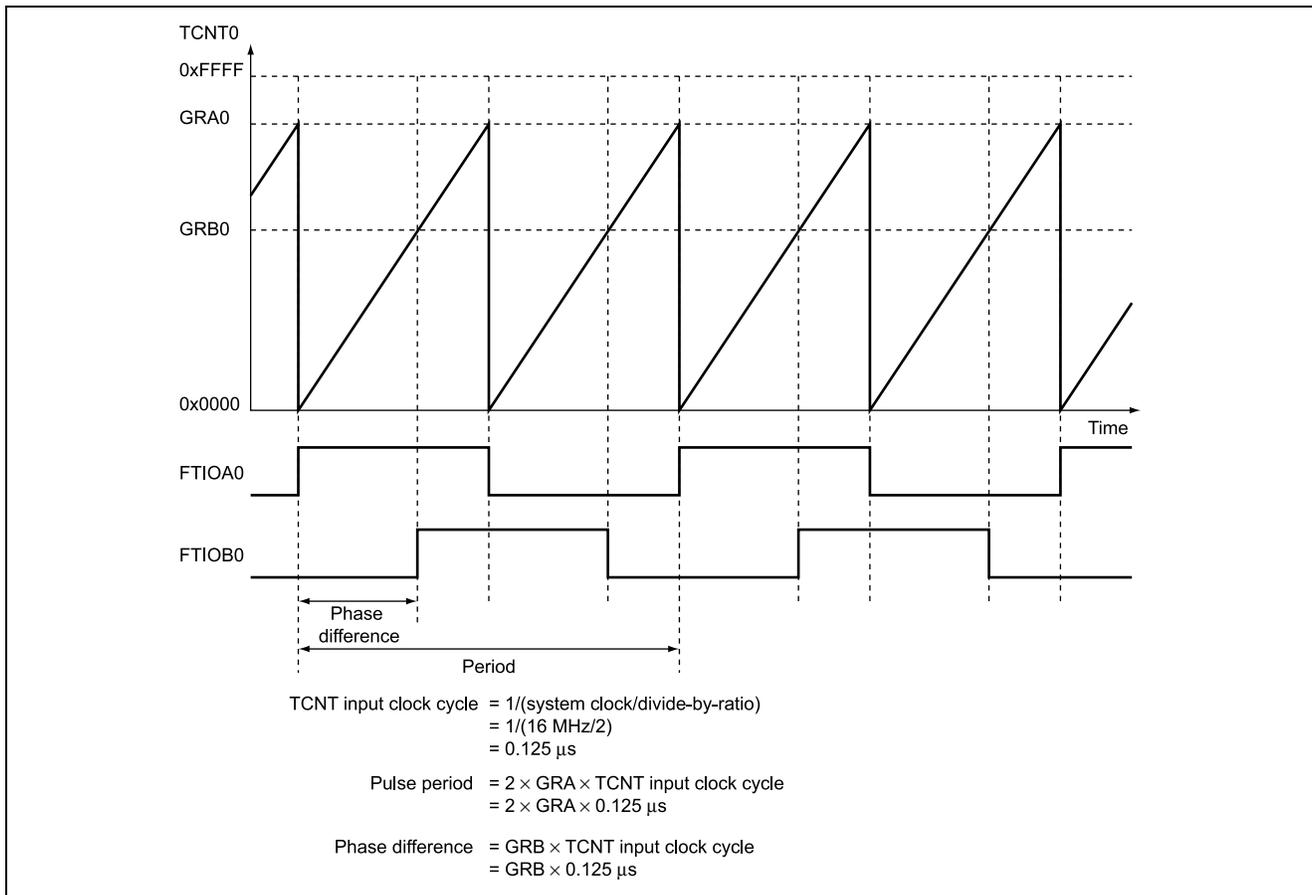

Figure 2.2 How the Period and Phase Difference of the Output Pulses are Set
2. Figure 2.2 shows how the period and phase difference of the output pulses are set.